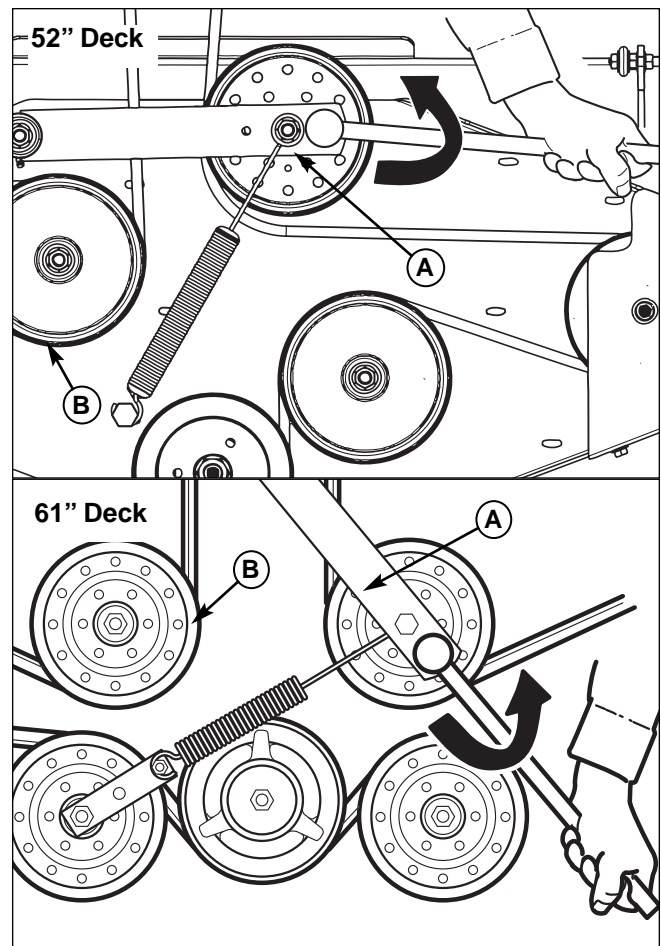

Figure 45. Mower PTO Belt
2. Using a 1/2" breaker bar, place the square end in the square hole located in the end of the idler arm (A, Figures 45). Carefully rotate the breaker bar counter-clockwise, which will relieve the tension on the belt exerted from the idler arm.
3. Slide the drive belt over the edge of the stationary idler pulley (B). Carefully release the tension on the breaker bar until the idler arm stops against the center spindle pulley.
5. Install the drive belt on the PTO pulley, the spindle pulleys and all idler pulleys except the stationary pulley (B, Figure 45). Carefully rotate the breaker bar counter-clockwise and install the belt on the stationary idler pulley (B). Carefully release the tension on the breaker bar.